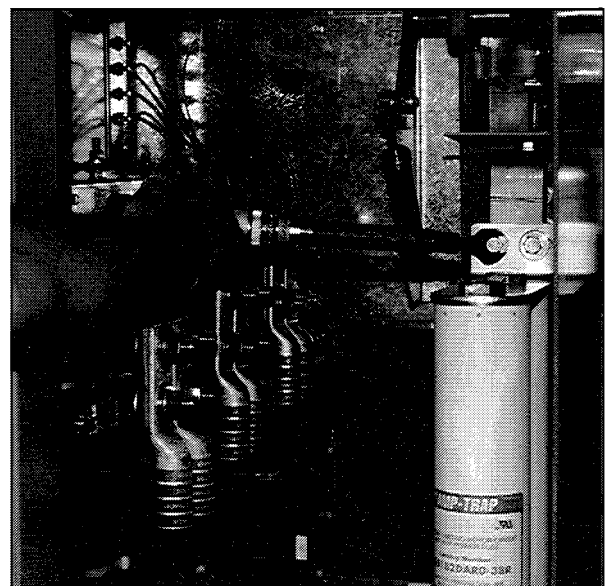

Fig. 44 Checking Power Fuse Clamping Bolt Torque
- The power fuses supplied in Toshiba JK 720 ampere controllers are of the bolt-in or clamp-in type, therefore overheating due to loss of fuse clip pressure is not a problem. The tightness of the fuse clamping bolts (Fig. 44) should, however, be periodically checked and maintained